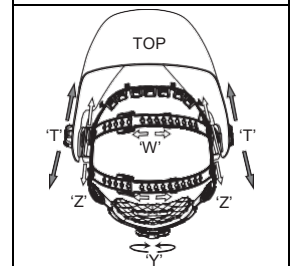

fig. 5
The overall circumference of the headgear can be made larger or smaller by rotating the knob on the back of the headgear (See adjustment “Y” in fig. 5). This can be done whilst wearing the helmet and allows just the right tension to be set to keep the helmet firmly on the head without it being too tight.
- If the headgear is riding too high or too low on your head, adjust the strap which passes over the top of your head. To do this release the end of the band by pushing the locking pin out of the hole in the band. Slide the two portions of the band to a greater or lesser width as required and push the locking pin through the nearest hole (See adjustment “W” in fig. 5).
Step 1: Undo the block nut (See “T” in fig. 5) to adjust the distance between the helmet and your face in the down position.
Step 2: Loosen the block nut on either side of the helmet and slide it nearer or further from your face (See adjustment “Z” in fig. 5). It is important that your eyes are each the same distance from the lens. Otherwise the darkening effect may appear uneven.